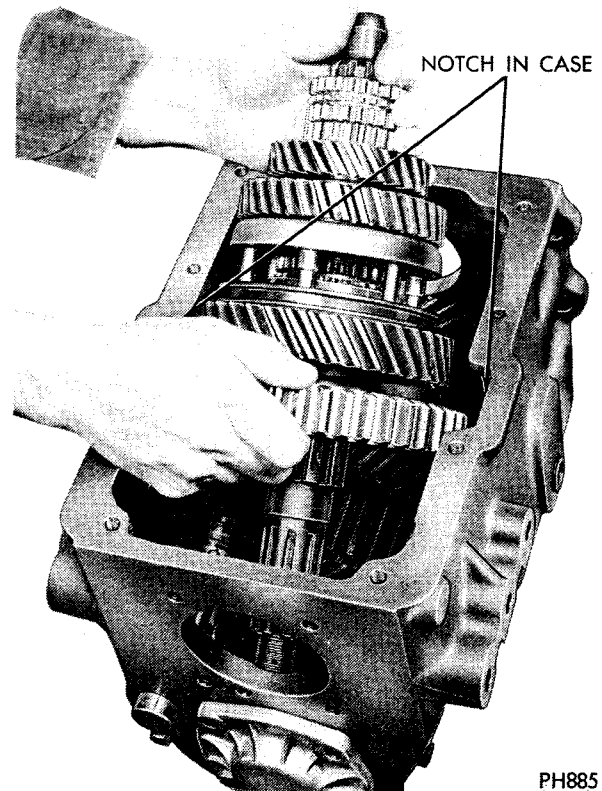

Fig. 5—Removing Mainshaft Assembly
(2) Remove brake drum and flange assembly by lightly tapping with a soft hammer.
(3) Remove brake band assembly anchor and support bolts and lockwashers. Remove brake band assembly as a complete unit.
(4) Remove drive pinion bearing retainer.
(5) Withdraw drive pinion assembly from case by pulling on shaft while tapping with a soft hammer.
(6) Remove mainshaft rear bearing retainer.
(7) Remove speedometer drive gear.
(8) Using a brass hammer, carefully tap front end of mainshaft rearward to drive rear bearing from its bore. Pull bearing from mainshaft using a suitable puller.
(9) Remove mainshaft assembly from case by lifting front end upward and drawing entire assembly forward until 1st speed gear can pass through notched areas in transmission case (Fig. 5).